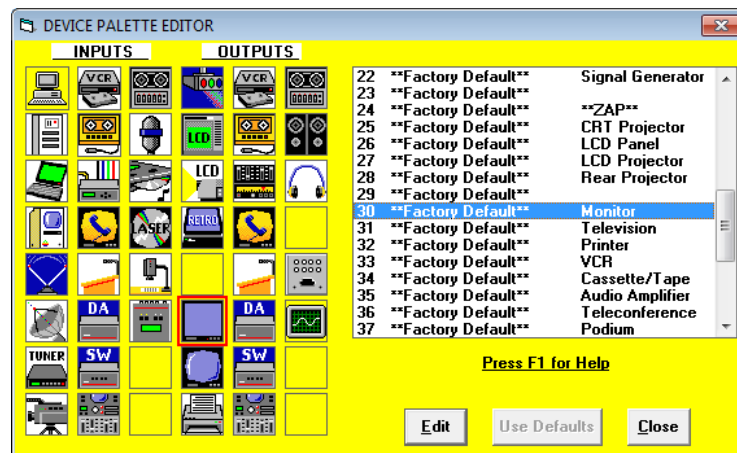

Figure 34. Device Palette Editing Windows
- **Edit Device Palette** — Selecting this option opens the Editor window (see figure 34). To edit an icon name, swap, or upload a new icon, select the icon number, click **Edit** and follow the on-screen prompts. Any changes made are shown in the Device Palette when next selected (see Customizing the SMX Window on page 75).